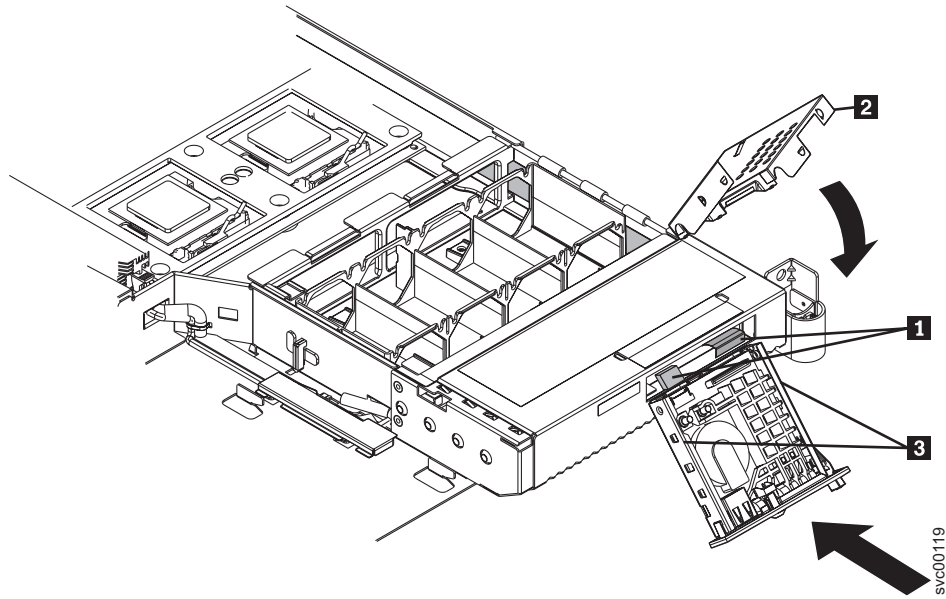

Figure 217. Replacing the operator information panel
1. Plug in the two cables on the rear of the assembly **1**. See Figure 217 on page 544.